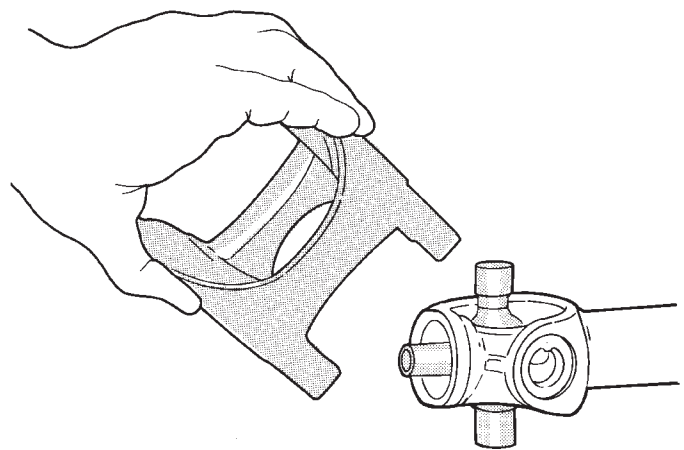

Fig. 30 Install Link Yoke
(7) Fit the link yoke on the remaining two trunnions and press both bearing caps into place (Fig. 30).
(8) Install snap rings.